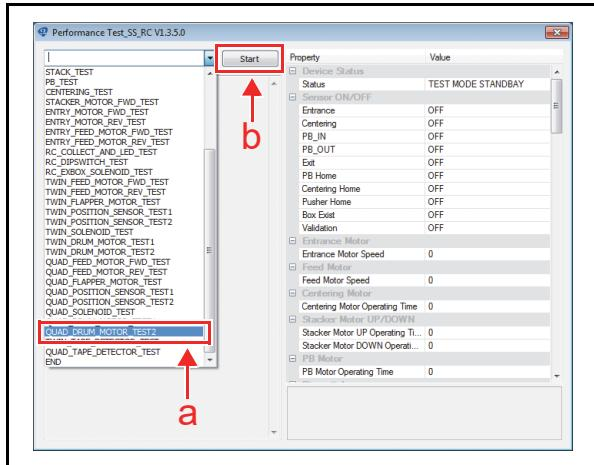

**Figure 6-68 Drum 1 Motor Speed Test (RQ Transport) 2**
5. The measured speed will appear in the “RC-Drum Motor 1 (RC-Quad)” area (Figure 6-68 a) on the Screen.
7. Click the “Stop” Screen Button (Figure 6-68 b) to end the test.